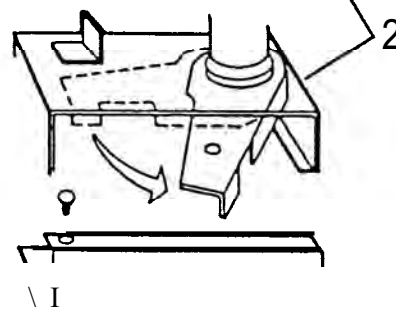

FIG. A2
2. Disconnect burner from chimney (FIG. A2).